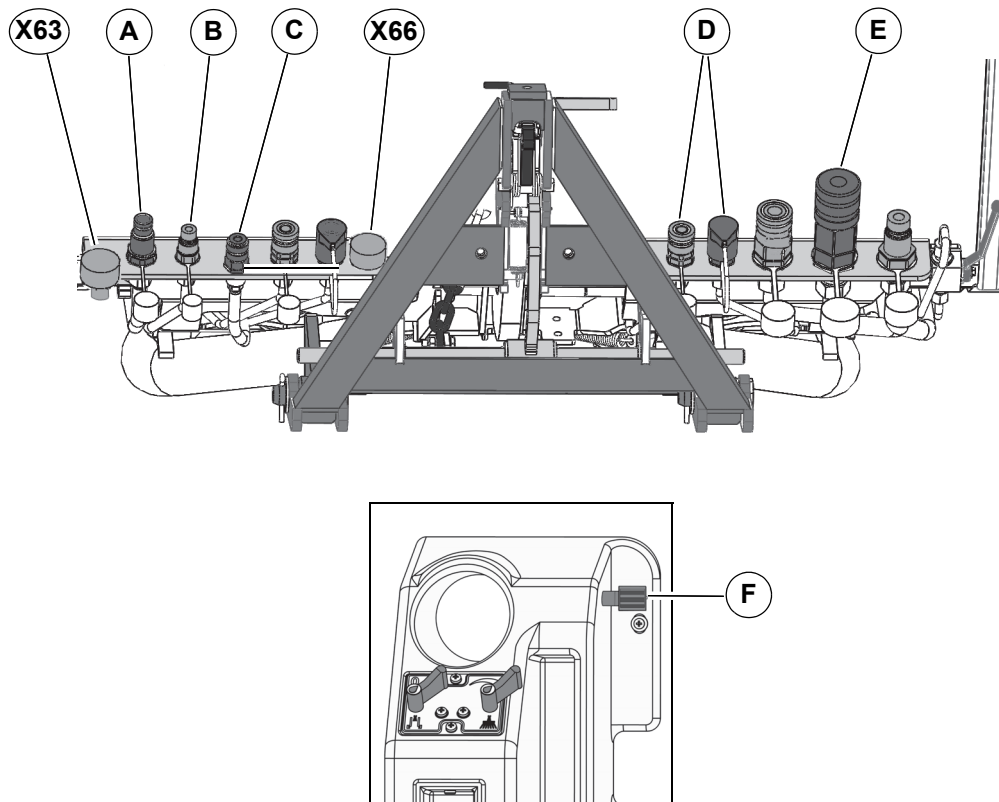

Fig. 125:
For the 3-brush system, the front tool carrier must be fixed in the upper end position. After mounting, move the front tool carrier to the upper end position and close the lowering valve **Fig. 125-F**.
- Supply control unit 3-brush system = **Fig. 125-A**
- LS for control unit 3-brush system = **Fig. 125-B**
- Water connection for spray nozzles = **Fig. 125-C**
- Actuator – supply/return = **Fig. 125-D**
- Return control unit 3-brush system = **Fig. 125-E**
- 9-pin plug = **Fig. 125-X66**
- 19-pin coding plug = **Fig. 125-X63**